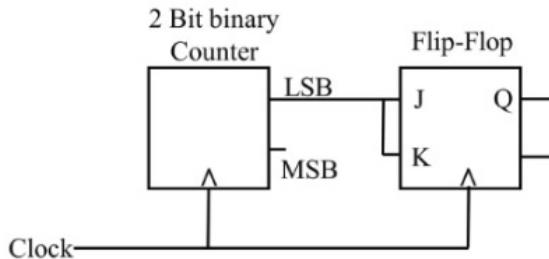

Fig. 5.13: Circuit
13. For the circuit shown in Fig. 5.13, the clock frequency is f_0 and the duty cycle is 25%. For the signal at the Q output of the Flip-Flop, (GATE EC 2022)